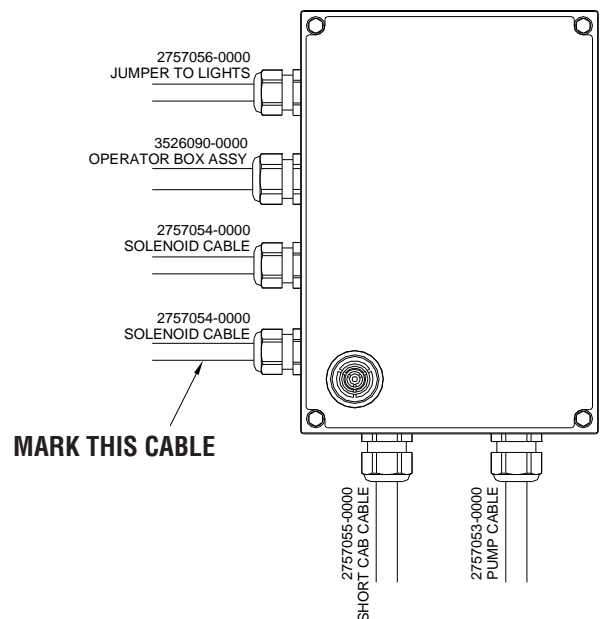

Figure 3
Step 5 - Disconnect solenoid wires from hydraulic box. Mark the left side solenoid cable. See Figure 3.